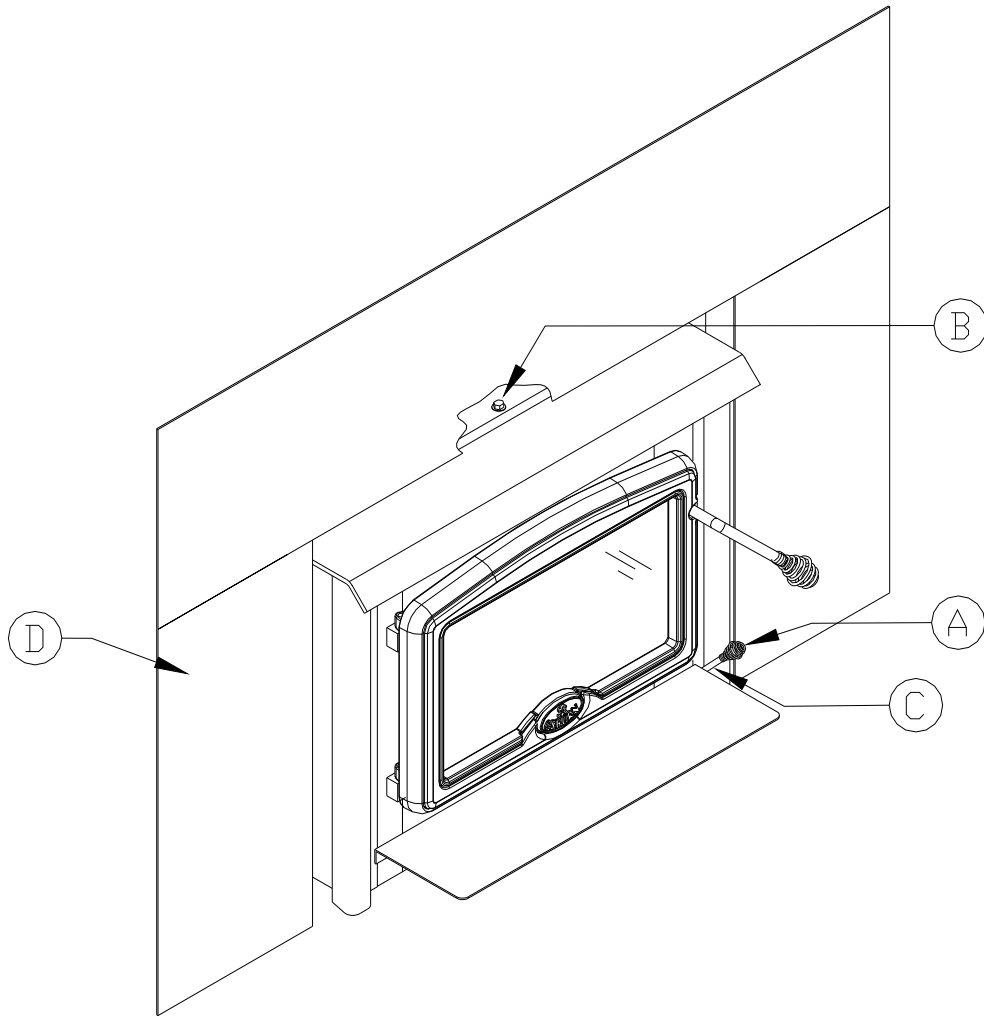

Figure 10
10. Push the air control (A) in, all the way. Slide the adjustable faceplate sleeve back into its original location until the faceplate fits tightly against the fireplace facing. See Figure 10. One 11mm open end wrench should be used to turn the nut (B), located above the cooktop in the center, up so that it securely fastens the adjustable faceplate sleeve to the top air jacket. Take the air control slider spring handle (C) from the firebox and turn it onto the 6mm air control rod (A).